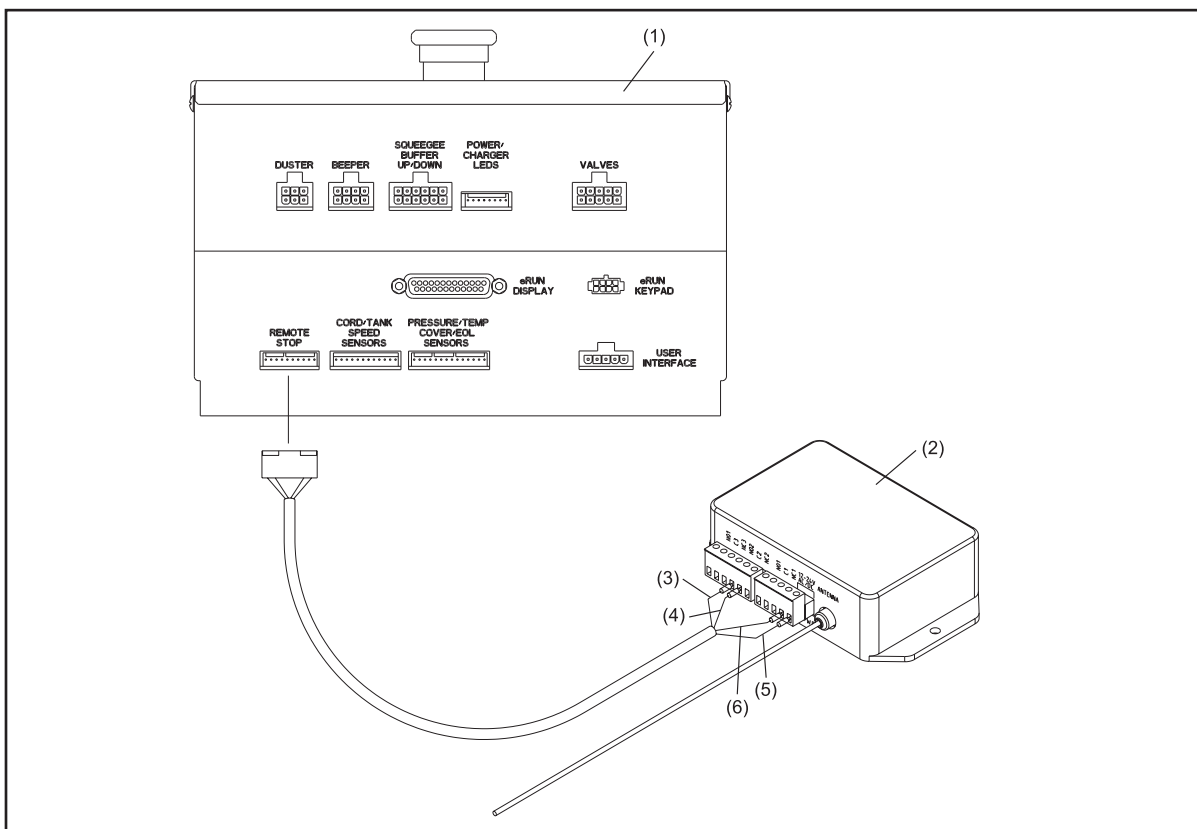

Figure 4-1. Remote Stop
- c. Press Stop (red square) to stop all functions. Refer to Figure 4-1.